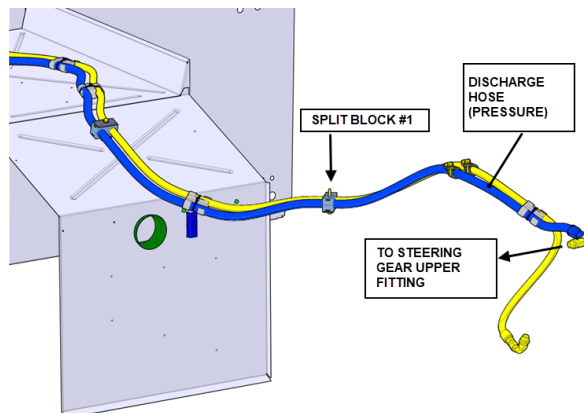

FIGURE 28
- In the spare wheel compartment, it is connected to the top of the steering box (fig. 28).